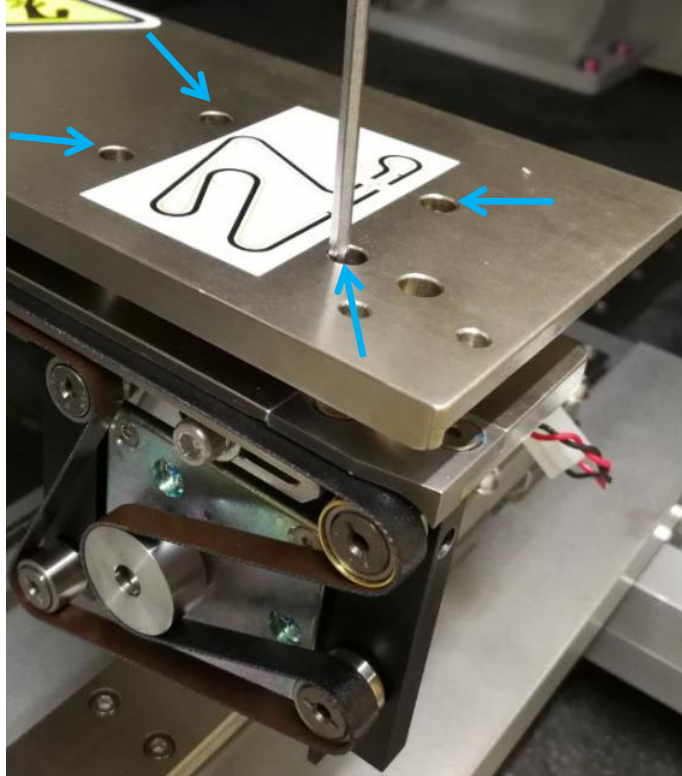

Figure 43 Adj Rail Mount Pulley Assembly
- b) Loosen 4 x Screws at Motor Pulley Assembly as below Figure 43